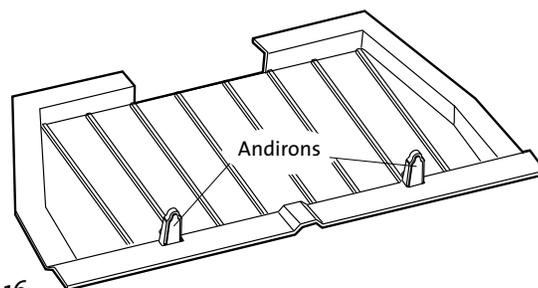

Figure 16. Fuel load area - keep logs behind the andirons.
- Load the fuel, usually with smaller logs first. **Keep logs behind the andirons.** See fig. 16.